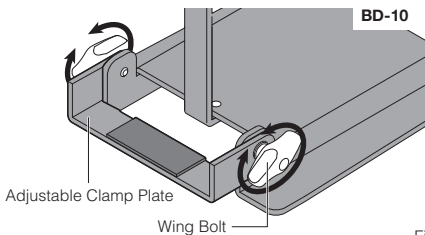

Fig.4
1. Loosen the Wing Bolts by turning them counterclockwise on both sides of the BD-10 Adjustable Clamp Plate (Fig.4).
4. Tighten the BD-10 Adjustable Clamp Plate Wing Bolts by turning them clockwise (Fig.4). Check to ensure they are evenly tight and secure.